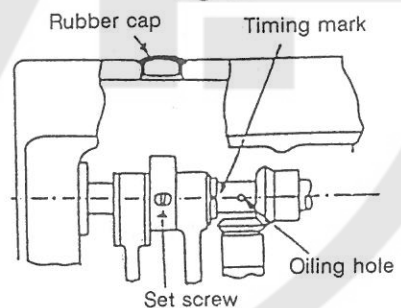

Fig. 25
- (2) Make adjustment by the mounting positions of feed cam. To install, timing mark on a feed cam is according with oiling hole on a upper shaft, by set screw as shown in Fig. 25.